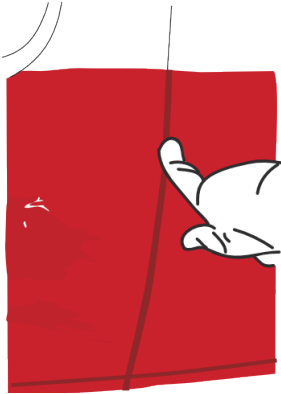

Figure 24
- › Trace with your gloved finger the contours of the area. (FIG. 24)